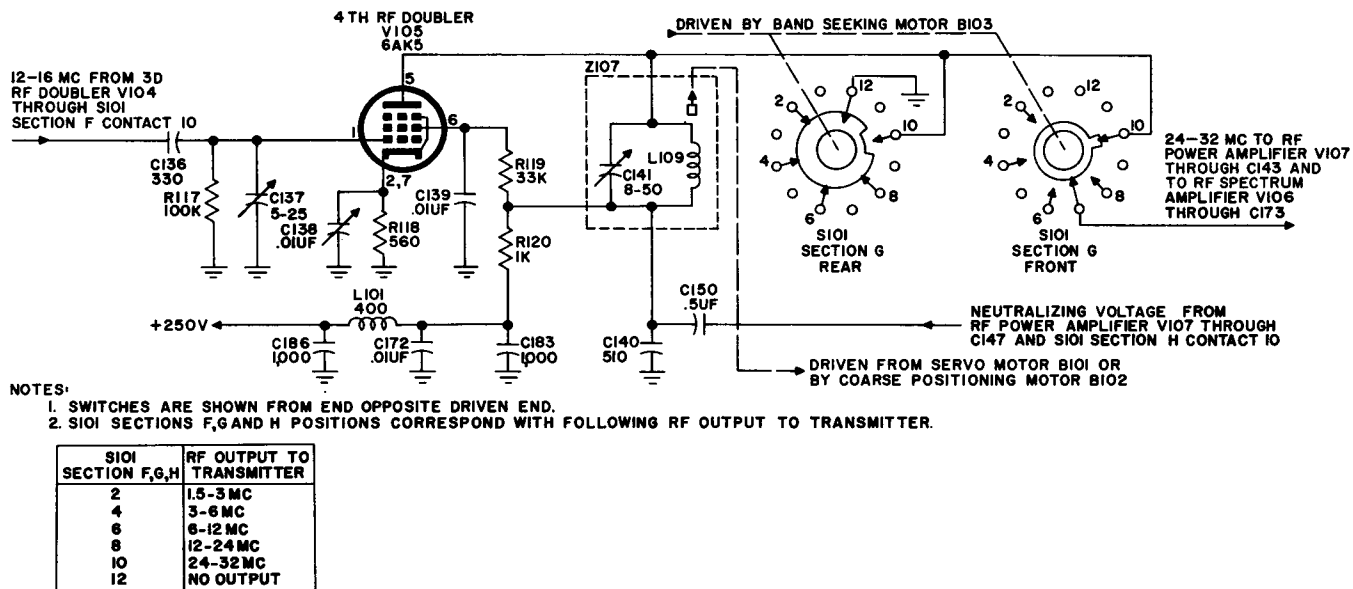

Figure 48. Fourth rf doubler, simplified schematic diagram.
81. Fourth Rf Doubler V105 (fig. 48)